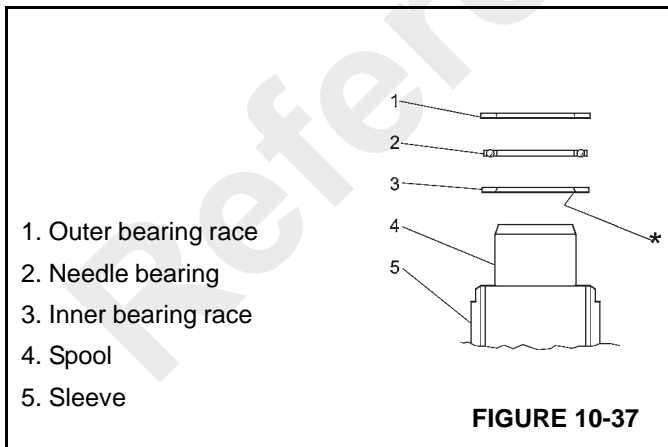
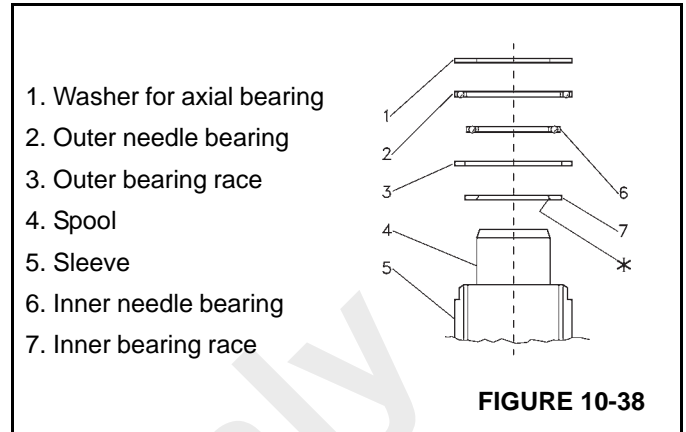

FIGURE 10-37
FIGURE 10-38
6. Fit bearing races and needle bearings as shown in Figure 10-37 or Figure 10-38.